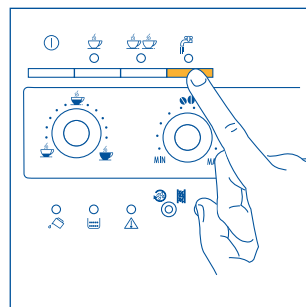

Fig.21
- Press the  button (fig. 21). The  light comes on to indicate that the function has been selected.
- Press the  button (fig. 21). (It is recommended to deliver hot water for no more than 2 minutes).